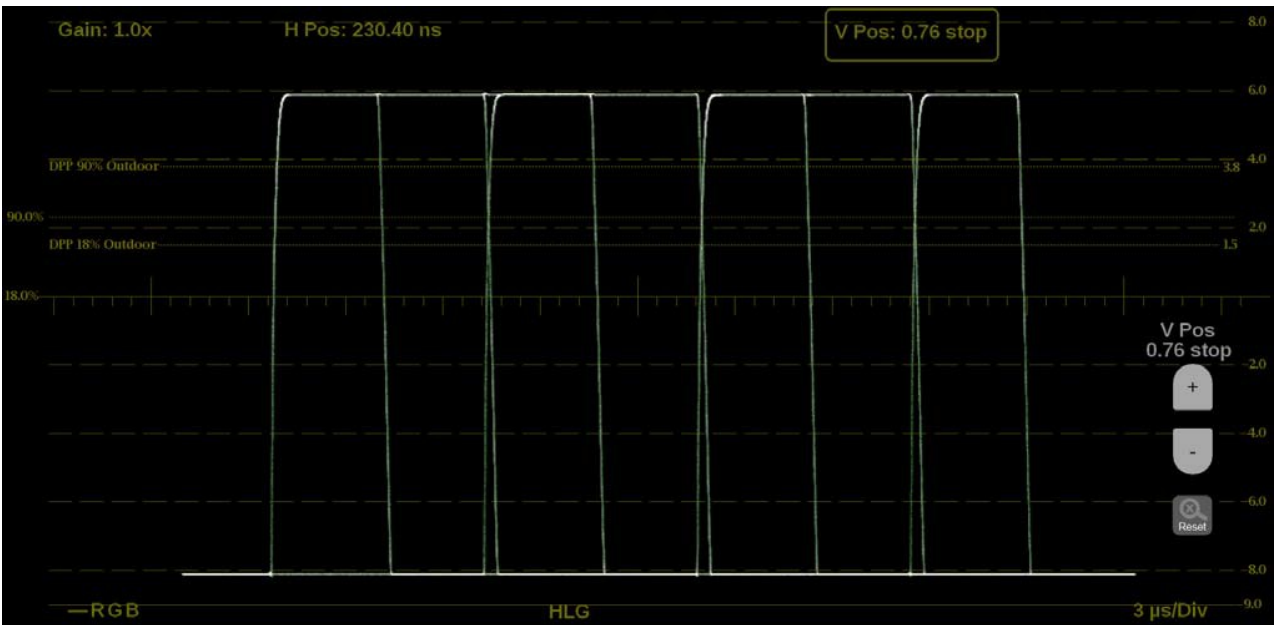

Figure 202: Stop Display on-screen tools – vertical position
2. Select the **V Pos** button to allow adjustment of the vertical trace. (See Figure 202.)